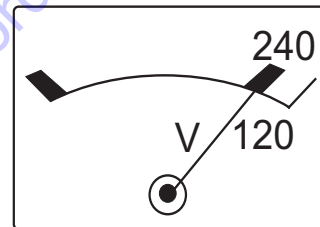

Figure 47. AC Voltmeter (120/240V)
4. Also verify that the AC voltmeter is registering a voltage reading as indicated by Figure 47.